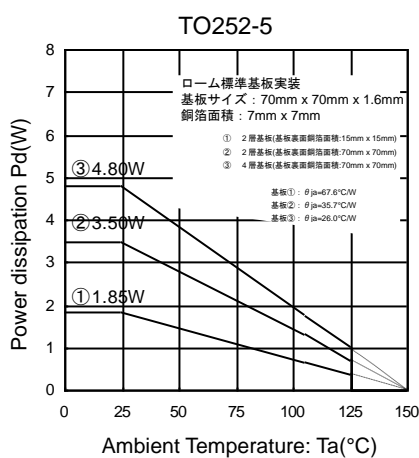

Figure 16
$$I_{OUT} \leq \frac{2.496 - 12 \times I_{CC}}{12 - 5} \quad \left(\begin{array}{l} \text{Figure 16 ③ : } \theta_{ja} = 26.0^\circ\text{C/W} \rightarrow -38.4\text{mAW/}^\circ\text{C} \\ 25^\circ\text{C} = 4.80\text{W} \rightarrow 85^\circ\text{C} = 2.496\text{W} \end{array} \right)$$